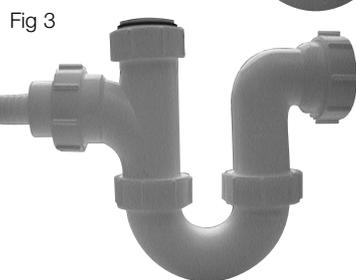

Fig 3
A Cold Fill Adaptor (Fig 3) is available from your local Hotpoint authorised Service Centre or by calling the Genuine Parts & Accessories Mail Order Hotline UK: 08709 077 077 or Republic of Ireland: (01) 842 6836.
1. Connect straight ends of supplied hoses to the Cold Fill Adaptor (Fig 3).
3. If fitting an under sink waste disposal unit (Fig 3), cut out the membrane, bung or blanking plug (Fig 4 and 4a).
Apply pressure at the 2 o'clock position (Fig 3) until the door clicks.